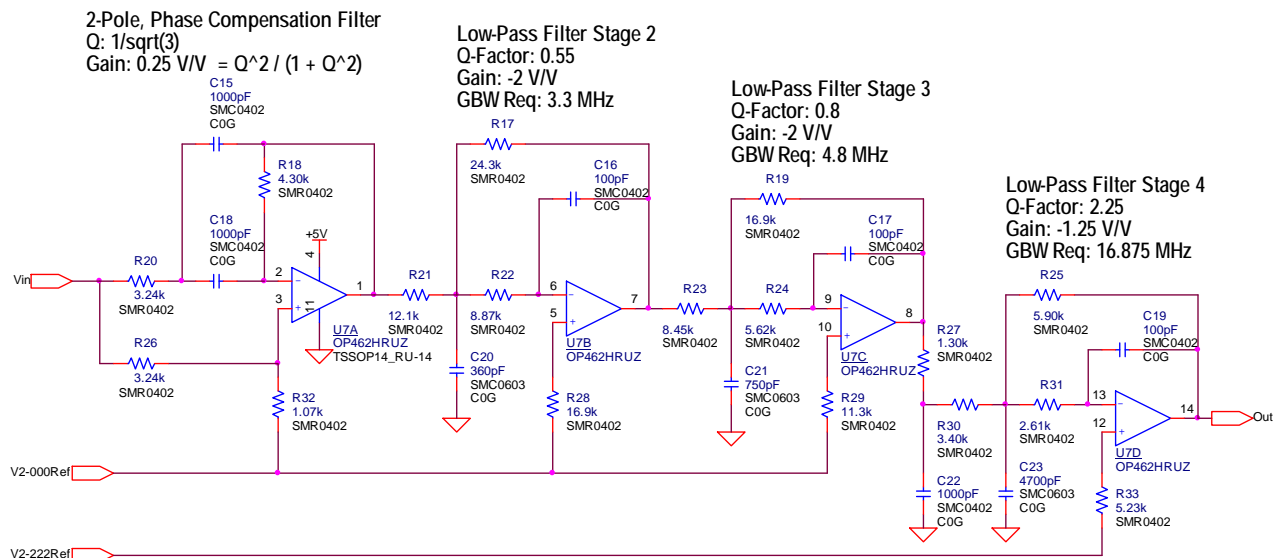
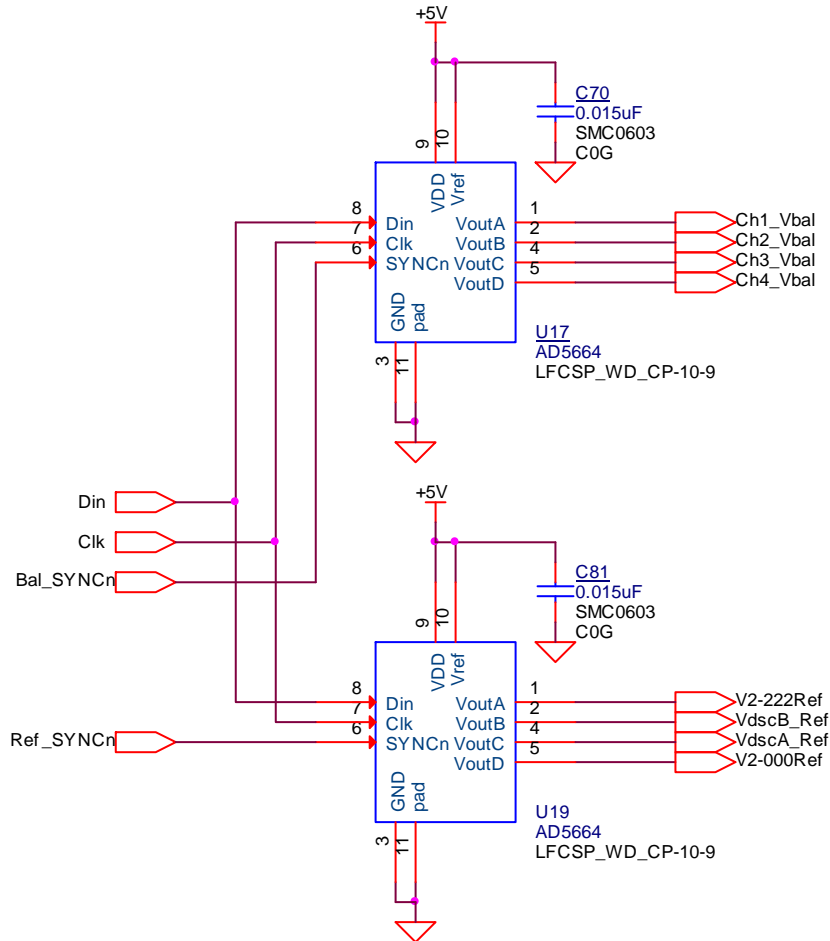

Figure 20. 57 KHz Phase-Compensated Butterworth Low-Pass Filter with -1.25 Gain
Figure 21. Digital-to-Analog Converters Adjust Balance and Threshold
The phase compensated, Butterworth, MFB topology filter design was taken from the 3DDR-AM design (3) with few modifications and is shown in Figure 20. Note that the first pole is implemented as a passive RC stage preceding the instrumentation amplifier as discussed above. Analysis for the 3DDR-AM design ensured each amplifier had sufficient slew rate to support the gain-bandwidth product needed for its stage. Total power for the Analog board, excluding the microcontroller circuit and accelerometer excitation, is about 50mA at 6V. The design's 12-bit ADC requires 72dB attenuation at 200 kHz, which is the 250-kHz sampling rate minus the 50 kHz highest non-aliased frequency desired by the customer. We defined the pass-band as having less than 5% magnitude deviation and less than 5% phase nonlinearity. Thus, our 50-kHz pass-band was achieved with a 57-kHz -3dB corner frequency.
The AE Recorder has programmable gain to match accelerometer's wide sensitivity variation. Sensor balance must also be adjustable to compensate for accelerometer offset voltage. Two 16-bit Analog Devices AD5664 Digital-to-Analog Converters, shown in Figure 21, generate the offset voltage needed for each of the four input channels. In addition, 2.00V and 2.22V reference voltages were needed for all of the filter circuits, seen in Figure 20 as V2-000Ref and V2-222Ref.